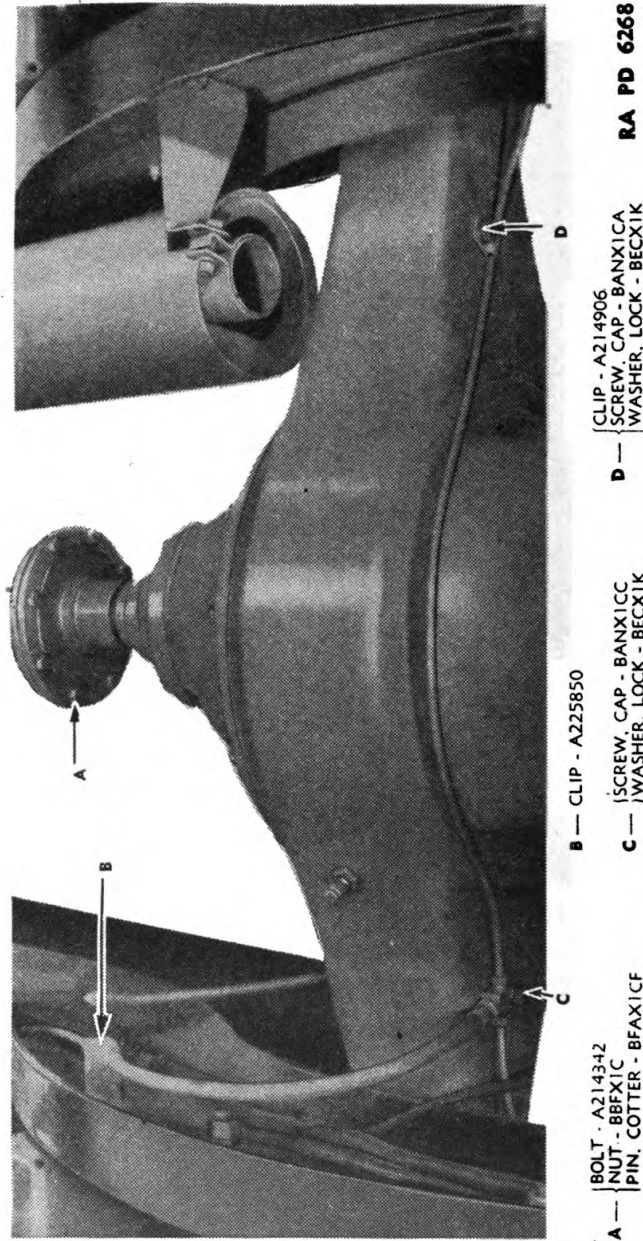

FIGURE 46.—Rear wheel brake lines, installed.
*d.* Disconnect brake lines—9/16-inch, open end wrench. Break hydraulic hoses at wheel cylinders and remove cap screw (BCAX1C) and lock washer (BECX1K) holding brake line tee (A167679) from differential housing, and cap screw (BCAX1CA) and lock washer (BECX1K) holding brake line clip (A214906) to axle housing (fig. 46).
(1) Disconnect rear propeller shaft— $\frac{9}{16}$ -inch open end wrench,  $\frac{9}{16}$ -inch socket wrench. Remove eight  $\frac{3}{8}$ -inch bolts, nuts, and cotter pins holding universal joint flange to jackshaft companion flange (fig. 46).
(2) Drain lubricant— $\frac{9}{16}$ -inch open end wrench. Remove magnetic drain pipe plug (A214913) from housing and drain lubricant.
(3) Remove floor plate— $\frac{7}{16}$ -inch socket wrench. Take out screw (BCNX2CF) and nut (BBAX1A) securing floor plates (B185254) over differential housing and remove plates.